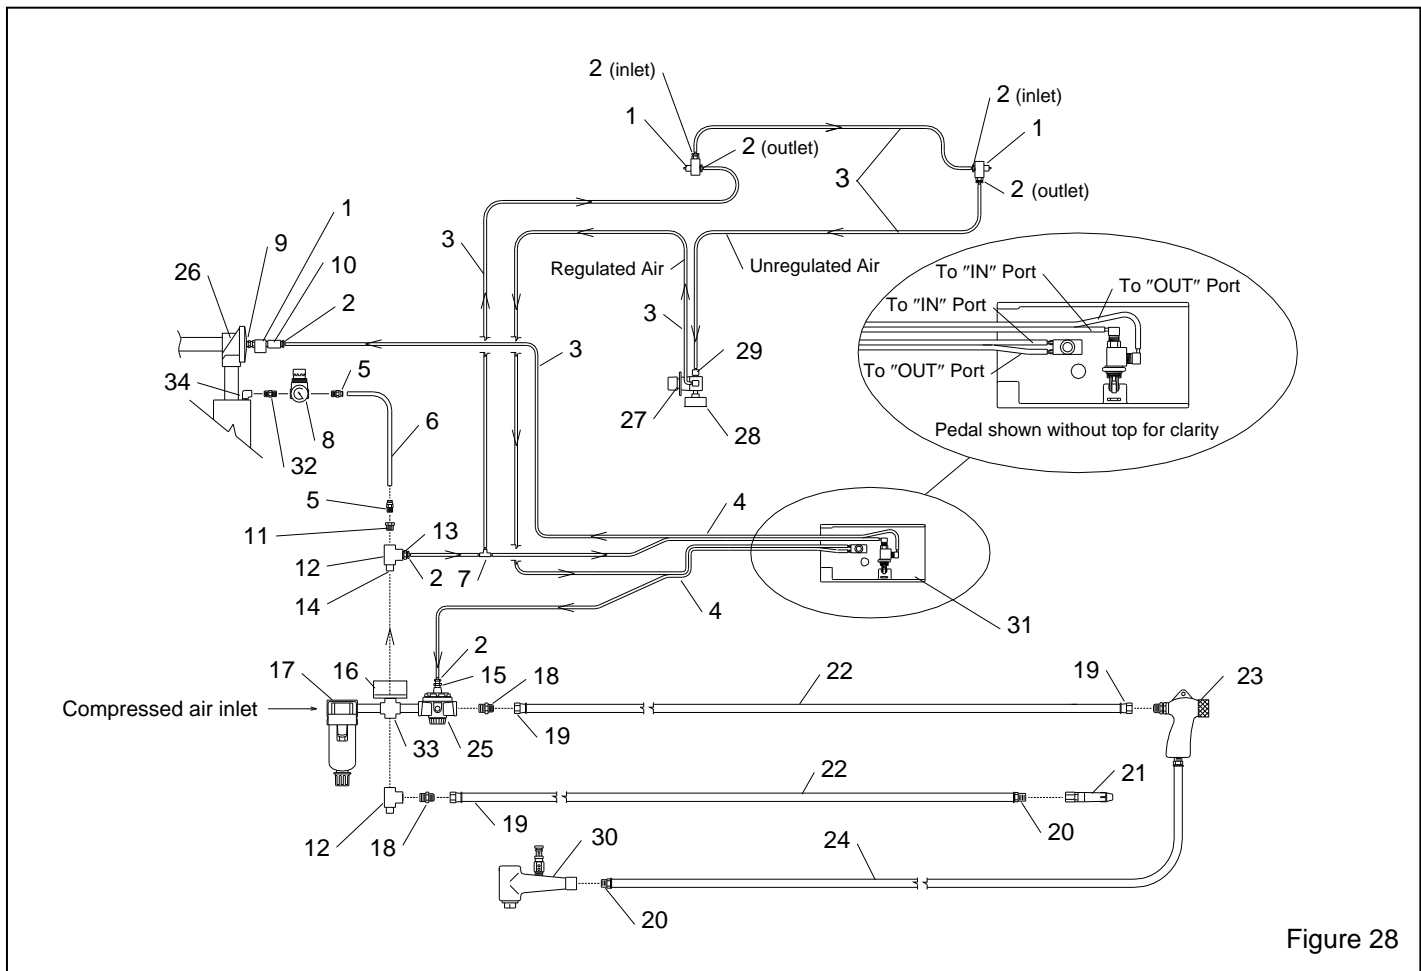

Figure 28
9.4 Plumbing Assembly, Figure 28